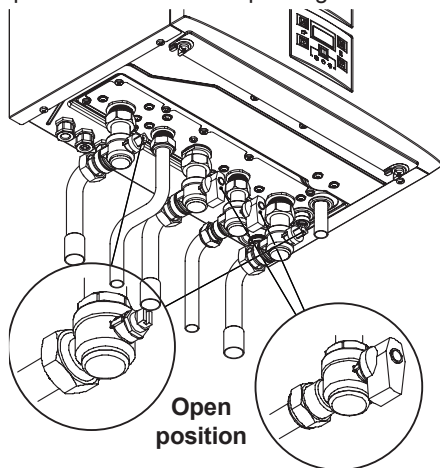

Fig. 2.3
- Check that the valves located in the lower part of the boiler are open Fig. 2.3.